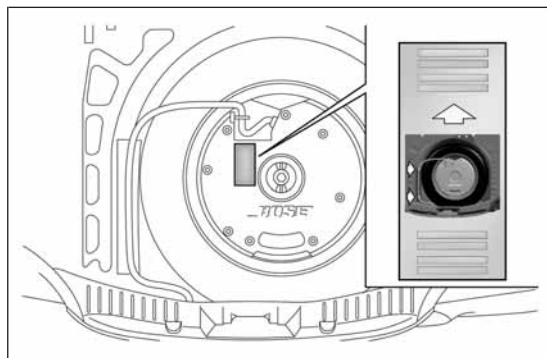

fig. 125
- ❑ reposition the container (with the arrow pointing forwards) in its housing and place the subwoofer on top of it, taking care to arrange it according to the indications on the container (fig. 125) so that the word "BOSE" is read in the correct position;